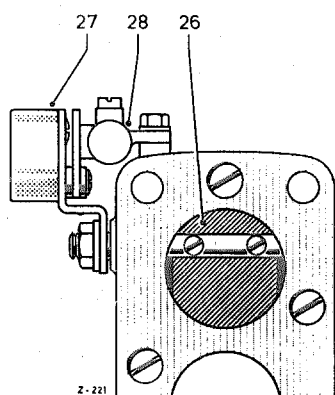

Fig. 07 — 0/2
Both stages of the carburetor are combined in one housing (Fig. 07 — 0/1). Throttle valve (23) of Stage 1 is located as usual in the lower part of the carburetor, set at an angle of 8°. Stage 2, however, has two throttle valves, set at an angle of 17°, the one (25) in the center section of the carburetor and the other (26) in the lower section. Throttle valves (23) and (25) of Stages 1 and 2 are coupled together by a linkage. The second throttle valve (26) of Stage 2 is not coupled to the other two. It is operated automatically by the pressure flow. The off-set shaft of the throttle valve is fitted with a lever, bearing a weight (27) (Fig. 07 — 0/2).